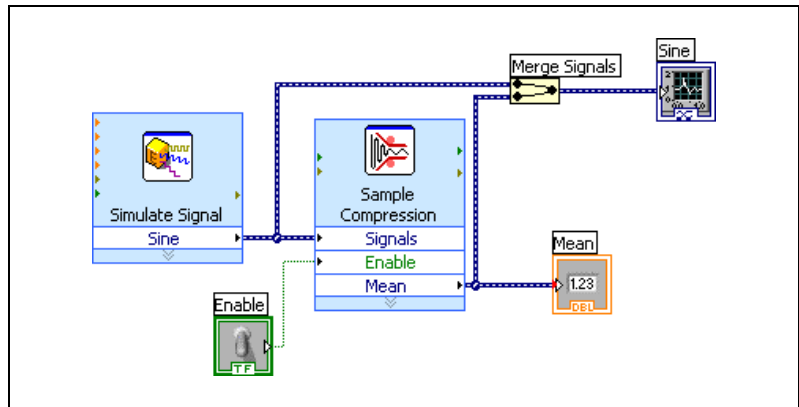

Figure 2-3. Block Diagram of the Reduce Samples VI
6. Arrange the objects on the block diagram so they appear similar to Figure 2-3.